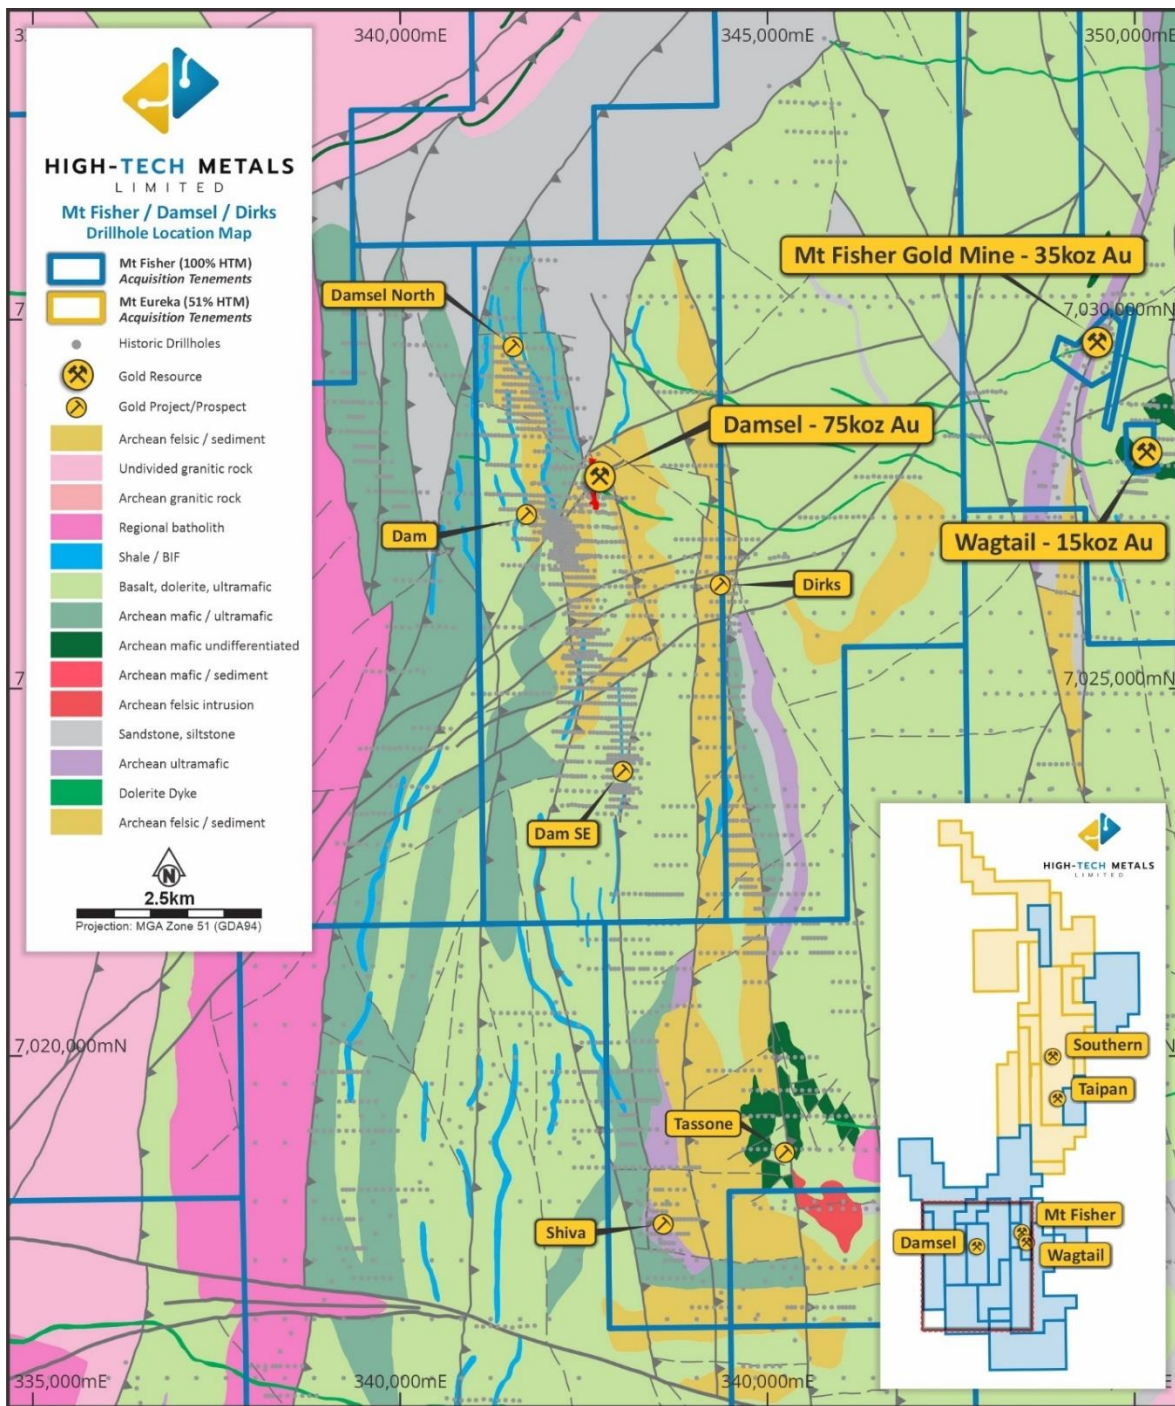
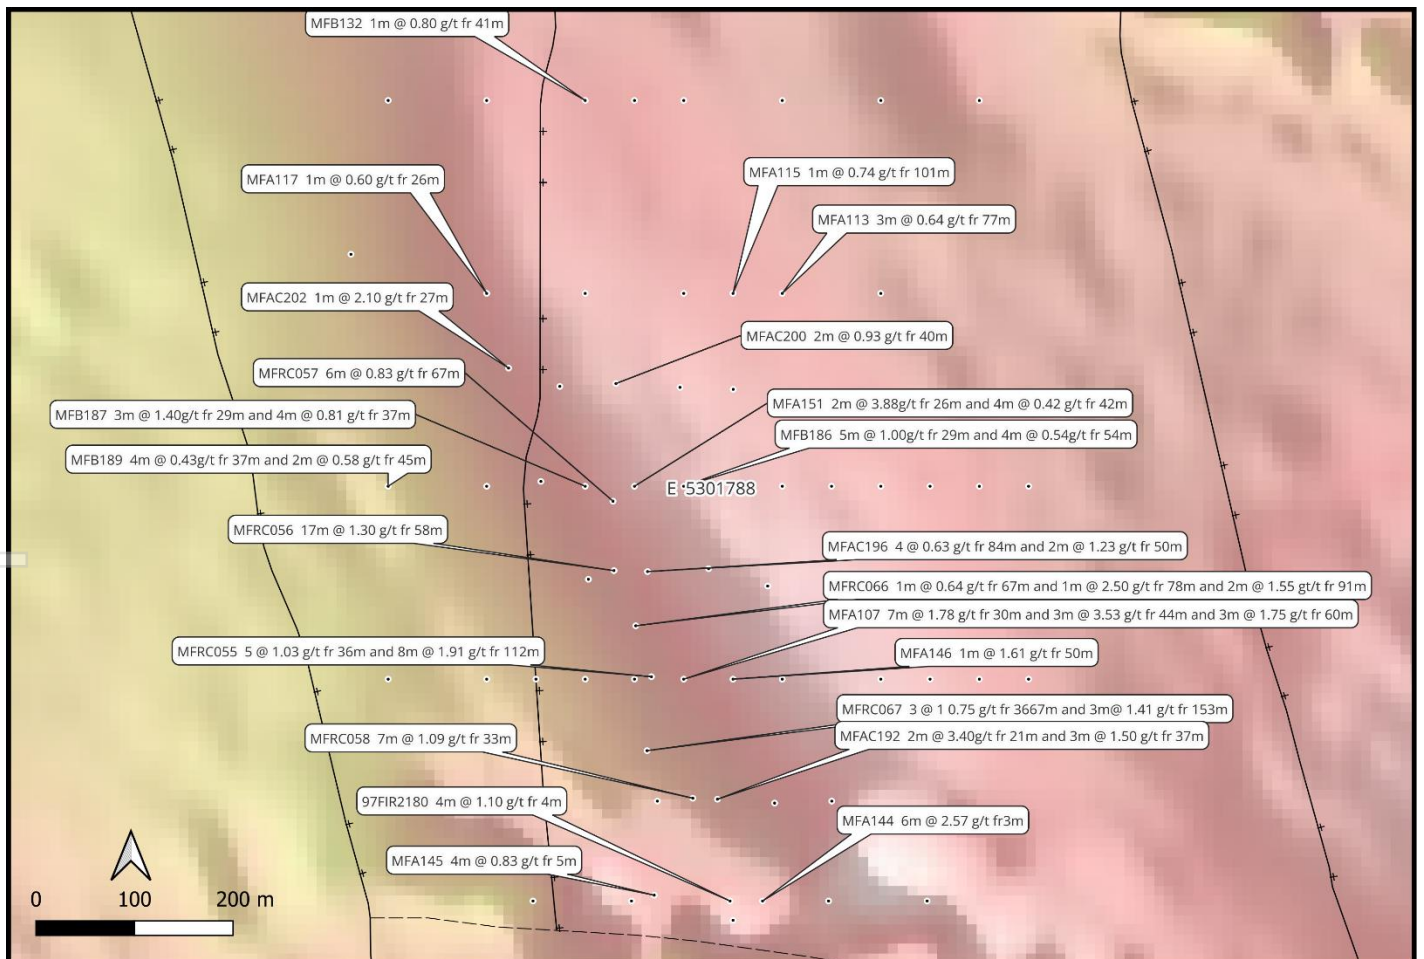

Figure 1- Dam and Dirks Project area displaying exploration targets, regional solid geology, and structural interpretation.
Figure 7 – Shiva prospect displaying significant assay results, regional structural setting (on TMI). Long section displayed in Figure 8.
- High-Tech has completed a review of the significant exploration potential below and along strike from existing Resources within the Dam and Dirks mineralised trends (Figure 1) at the Mt Fisher project.
High-Tech Metals Limited (ASX: **HTM**) ("**High-Tech**", "**HTM**" or the "**Company**") is pleased to announce that it has completed a review of exploration potential below and along strike from existing Resources within the Dam and Dirks mineralised trends (Figure 1) at the Mt Fisher Project. HTM is progressing approvals and aggressively expanding its exploration footprint to test these significant targets.
The Project is in the Northern Goldfields, approximately 500km northeast of Kalgoorlie and 120km east of Wiluna within the Mt Fisher greenstone belt, which is located 40km east of the prolific Yandal greenstone belt, host of significant gold deposits including Jundee, Bronzewing and Milrose). The total consolidated land package is 1,150 km² (Figure 1). The total Indicated and Inferred Mineral Resource for the Mt Fisher – Mt Eureka Gold Project is **3.5Mt @ 1.65g/t Au for 187koz** of contained gold (Appendix 1) (refer ASX: HTM, 26 February 2025).
The Dam-Damsel Gold Trend is defined by strong gold and multi-element anomalism (Sb, As, Bi, Cu, and Zn) over 10km of strike within a well-defined structural corridor on the western limb of the Wonganoo Anticline (Figure 1). Mineralisation trends in a north-south orientation and is interpreted to be channelled along the bounding Dam and Dirks shear zones and particularly through an anastomosing network of linking structures between these major shears. Five targets, Damsel, Dam, Dam North, Dam West, and Shiva (Figure 1) have been identified and will be the focus of future drilling and are outlined below.
The Dam North prospect (Figure 1) is near the major synclinal shear and rock types are dominated by tholeiitic basalt with minor felsic volcanics (Figure 5). These are intruded by feldspar porphyry and lamprophyre dykes which swarm in a roughly N-S orientation. Chlorite-sericite rocks (shear zone) are often associated with the quartz porphyries and there are minor narrow ultramafic lenses.
The Shiva prospect is located approximately 6km to the south of Dam (Figure 1). It is an extensive, but not continuous mini-RAB anomaly which has a strike length of over 4km and overlies a complex zone of mafic extrusive and mafic intrusive lithologies (Figure 7 and 8). Late stage (D4) northeast – southwest faulting is common throughout the prospect area.